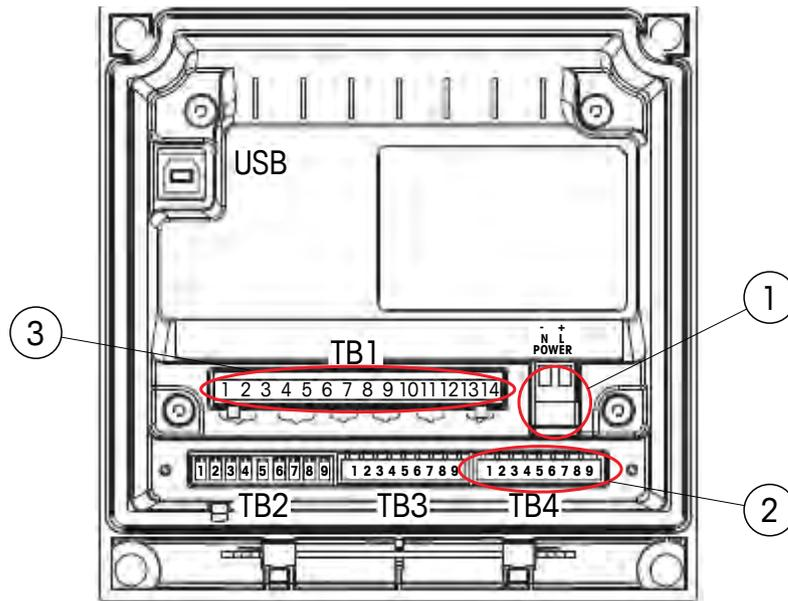

Figure 32 Cable connections in M400
- 2 Connect the wires in the supply cable to the appropriate electrical supply terminals in the M400 as follows and as shown in Figure 32 (Cable connections in M400) on page no 60.